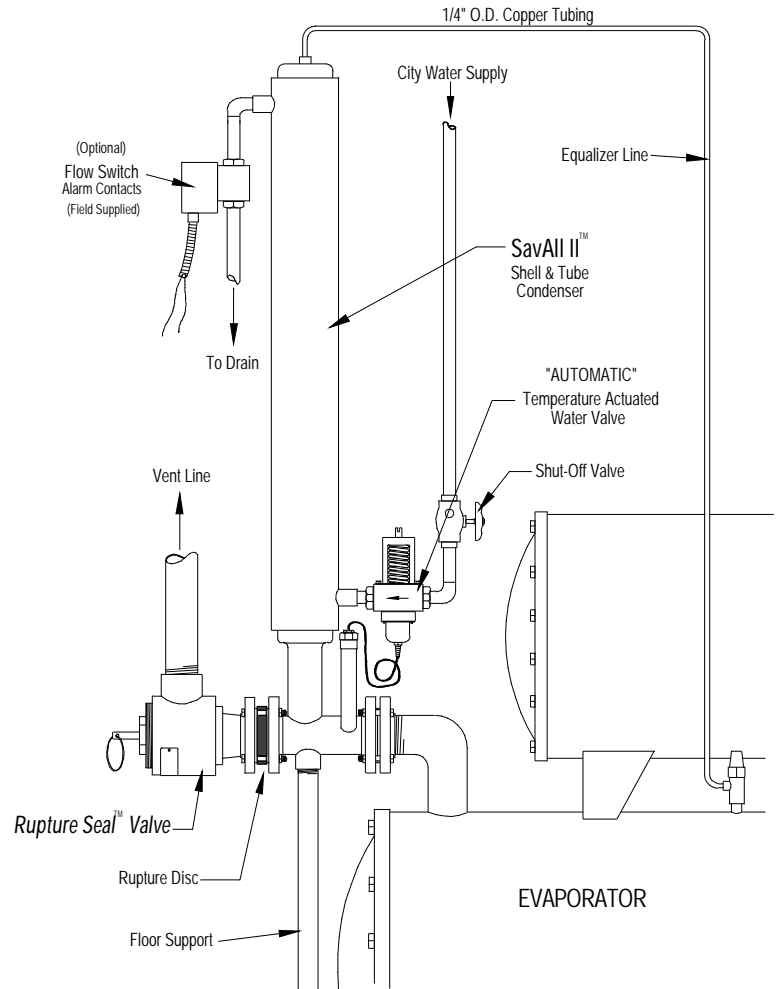

Figure 1.-Typical Installation
The **SavAll II™** installs between the chiller and the chiller's safety relief system (see Figure 1 on Page 5).
3. **This step will require two people to perform safely!** Using new flange gasket provided, bolt the **SavAll II™** unit to the chiller flange (with the sensor bulb well next to the chiller flange – see Figure 1 on Page 5). Before tightening bolts, align the **SavAll II™** unit vertically.
6. Next, if installing a model **RS RuptureSeal™ valve** – using the installation instructions provided with the **RS valve**, install the chiller's existing carbon rupture disc and the valve on the outlet flange of the (see Figure 1 on Page 5).
1. Using the ¾" brass pipe nipple provided and appropriate pipe thread sealant, attach the outlet of the **automatic water valve** to the **city water inlet** at the bottom of the **SavAll II™** condenser (see Figure 1 on Page 5). **Be sure the flow directional arrow on the valve body is pointing toward the SavAll II™ condenser.**
1. Using $\frac{3}{4}$ " copper tubing, connect city water to the inlet of the automatic water valve. **NOTE: A water shut-off valve should be installed in the city water supply line near the automatic valve** (see Figure 1 on Page 5).